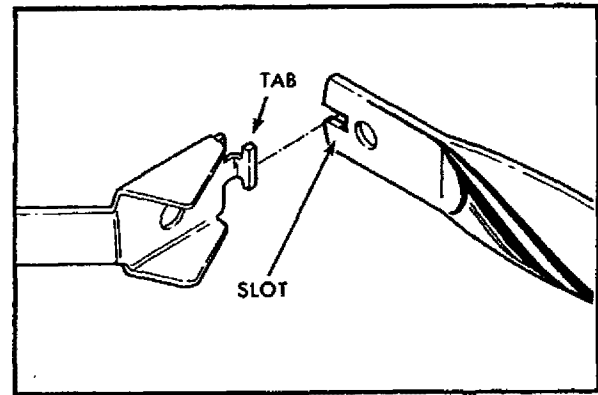

FIG. 5
- f. Turn handle over, position the handle levers in place (See Fig. 5).